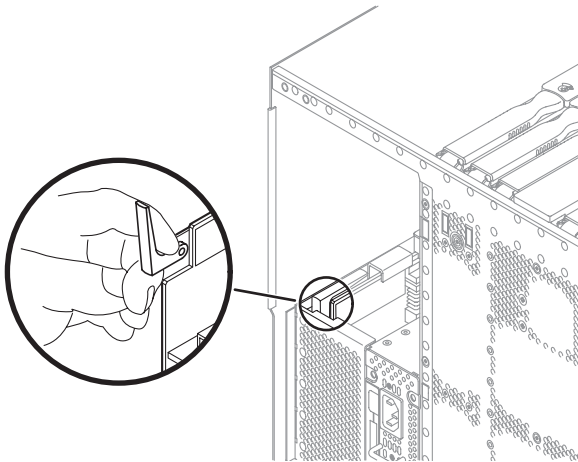

FIGURE 7-5 Unlatching the Power Distribution Board Ejector Lever
10. Raise the power distribution board ejector lever until it is vertical (FIGURE 7-5).
7. Move the ejector lever to the horizontal position (FIGURE 7-5).